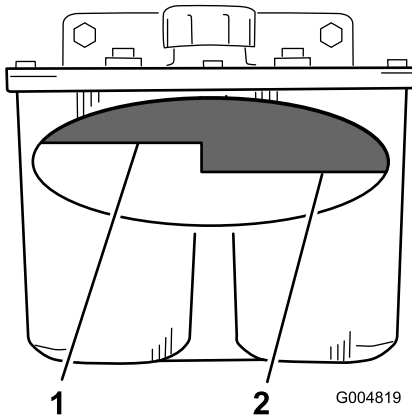

Figure 86
- Clean the area around the filler neck of the hydraulic tank (Figure 86).
- Remove the cap from the filler neck and look inside to check if there is fluid in the reservoir (Figure 86).
Note: The fluid level should be to the top of the hot level of the baffle, when the fluid is hot (Figure 86).